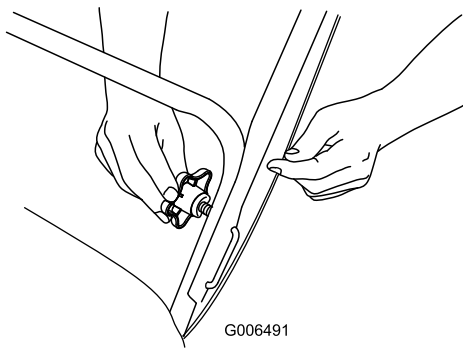

Figure 4
2. Insert the end of the “U”-shaped handle lock into the open hole in the handle and tighten the handle knobs until they are snug (Figure 4).